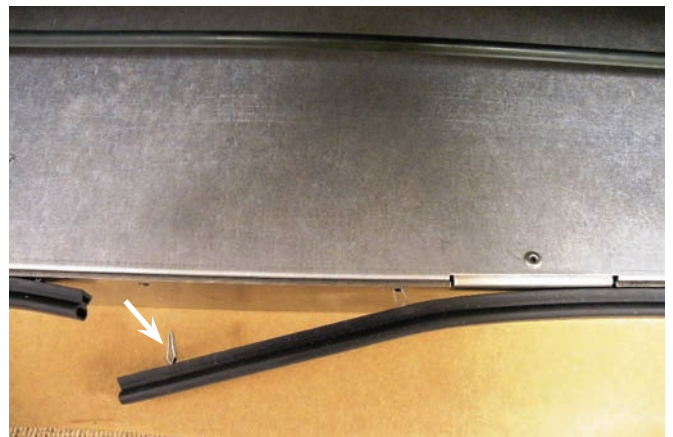

Fig 13
5. To remove the **rubber seal**, gently pull on the open end part of the seal and using a needle nose pliers, slightly squeeze the spring hook to release the seal from the face plate. (**Fig 13**).